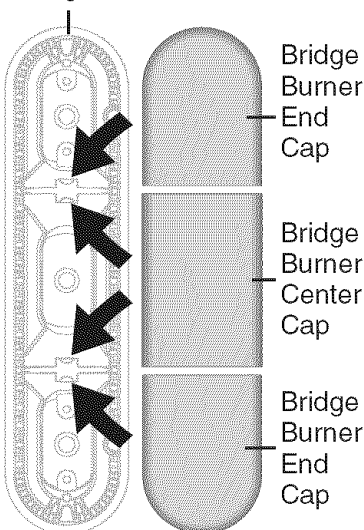

Figure 2
5. Replace Bridge Burner Caps. These include one Bridge Burner Center Cap (rectangular shaped) and the two Bridge Burner End Caps (The Bridge Burner End Caps will fit either the front or rear Bridge Burner Head locations). Make sure that the tabs located under the Bridge Burner Caps fall into the slots located in the Bridge Burner Head (See arrows in Figure 2) and that all the Bridge Burner Caps lie flat and evenly on the Bridge Burner Head.